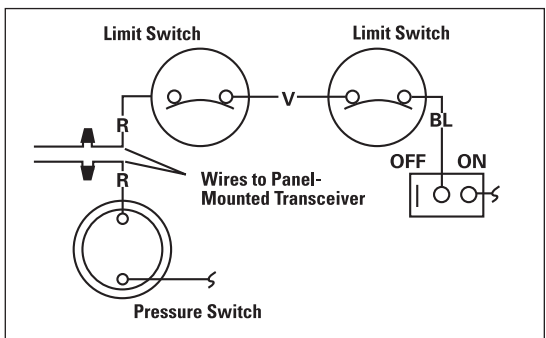

Figure 3-14 — Wiring with Panel-Mounted Transceiver
3. Connect two #14 gauge wires, designed for use in hot environments, to the two red wires. (See Figure 3-14.)